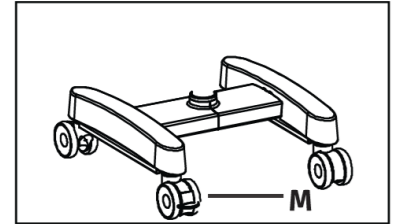

Fig. 47
Locks the stand from unwanted movement by pressing down the two brakes provided on caster wheels. To unlock press upper portion of brake. See (M) Fig. 47.